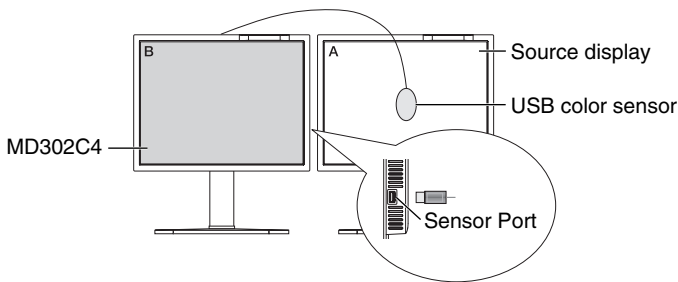
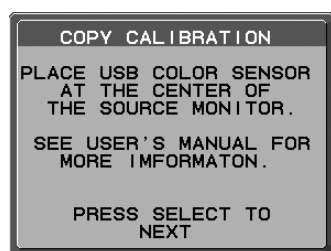

Figure C.1
Figure C.4
1. To show the CALIBRATION menu, plug-in the USB color sensor to the sensor port (**Figure C.1**) or select the STAND ALONE CALIBRATION in the advanced menu (page 25).
4. The procedure will ask for the USB color sensor to be placed on the center of the display panel (**Figure C.4**). Tilt the display panel approximately 5° backward and place the USB color sensor in the center of the display panel (**Figure C.1**).